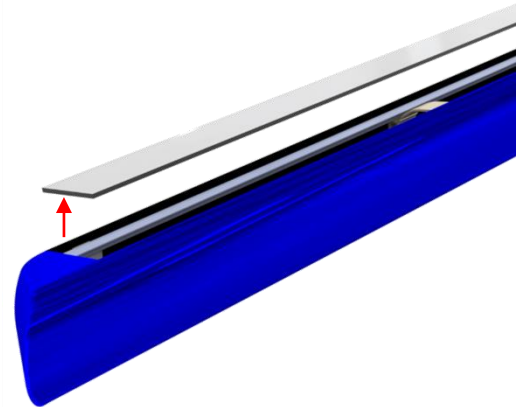

Figure 36: Audience left, front of unit, showing acrylic glass removed
1. Remove acrylic glass from top of case. Simply lift up with your fingers and place in a safe location (see Figure 36).